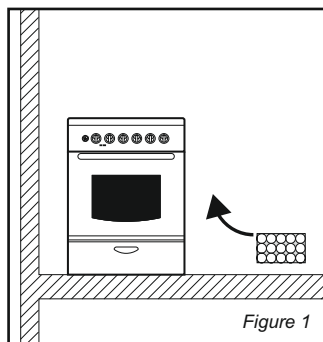

Figure 1
- Combustion gases from cooking appliances must be released directly out of doors or via a hood connected to a chimney or flue (Figure 1)